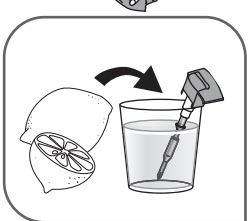

Fig. 19
- Let the rod soak for four hours in a glass of white vinegar or natural lemon juice – fig.19.